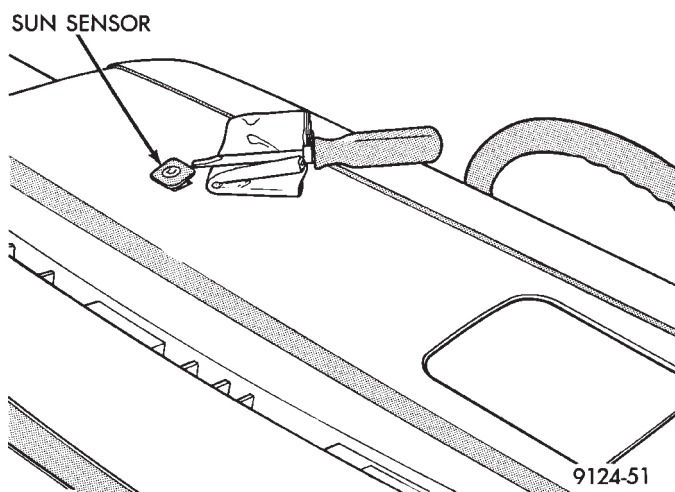

Fig. 1 Sun Sensor Removal
(1) Carefully pry up the sensor from the instrument panel with a screwdriver (Fig. 1). Place a rag under the screwdriver to prevent scratching of the instrument panel.